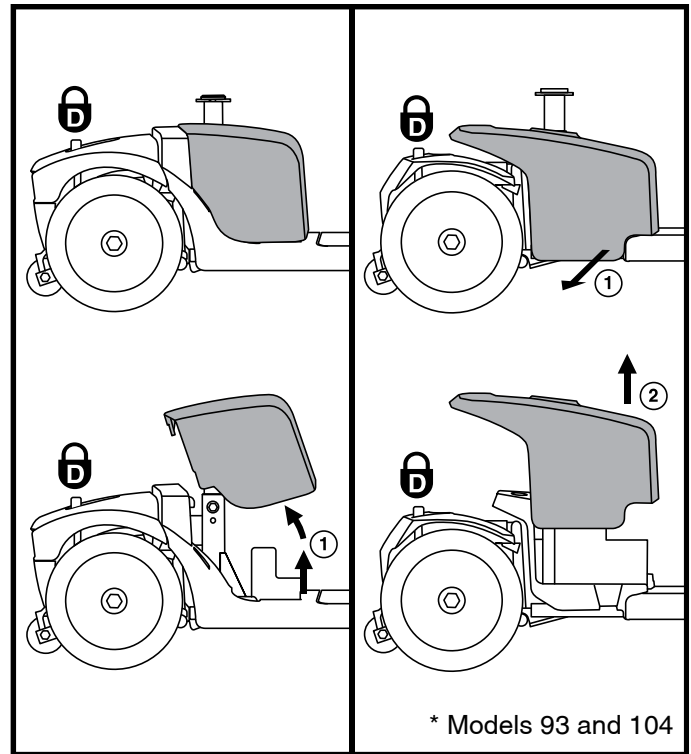

Figure 15. Battery Shroud Removal/Installation
1. Remove the seat and battery shroud. See figure 15.